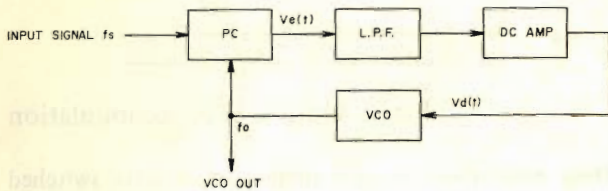

Fig. 10 PLL Circuit
PLL circuit is a kind of feedback circuit and is comprised of a Phase Comparator (PC), a Low Pass Filter (LPF) a Direct Current Amplifier (DC Amp.), and a Voltage Control Oscillator (VCO) as shown in Fig. 10.
Accordingly, for composite stereo signal demodulation, the sub carrier used for demodulation at the transmitter must be the same uniform 38 kHz signal as the frequency and phase. If the 38 kHz waveform is asymmetrical, channel separation will become poor. At the PLL employed MPX stereo demodulator circuit, as shown in Fig. 10, first a 76 kHz signal is oscillated and when this passes the divider, a symmetrical 38 kHz signal is obtained.